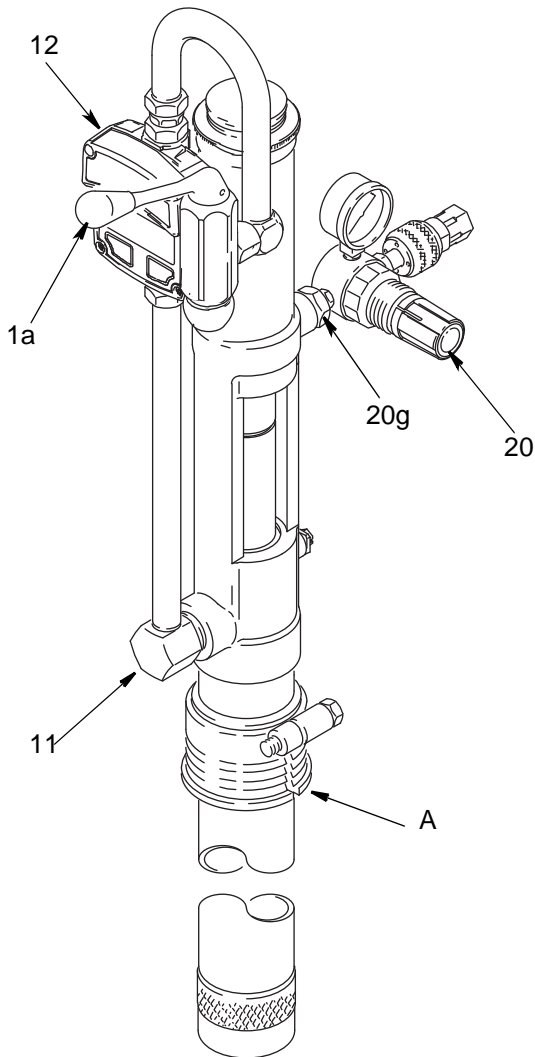

FIG. 1
1. Apply thread sealant to the male threads of the bushing (20g) and install the air regulator (20) at the pump air inlet. (FIG. 1)
2. Apply thread sealant to the male threads of the elbow (11) and install the dispense valve assembly at the pump outlet. (FIG. 1)
3. Install the pump in the bung hole of a fluid supply container. Screw the bung adapter (A) tightly into the hole. Raise the pump about 1/2 inch (12 mm) from the bottom of the container. Tighten the bung adapter screw. (FIG. 1)